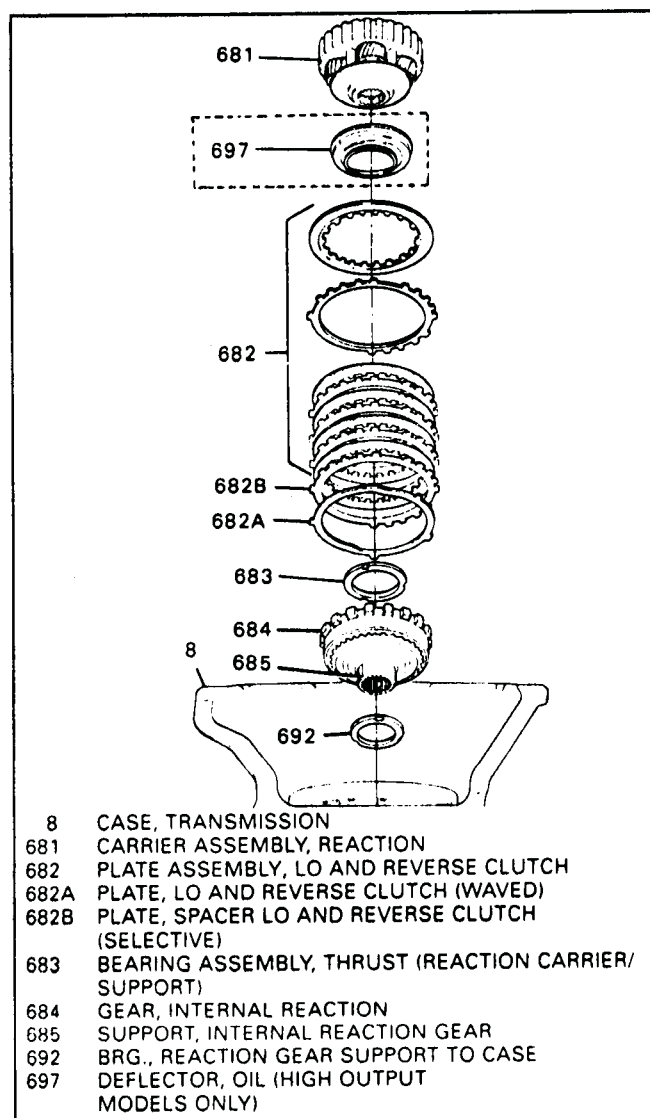

Figure 74
1. Install the Lo/Reverse clutch waved plate into the case first against the piston (See Figure 74).